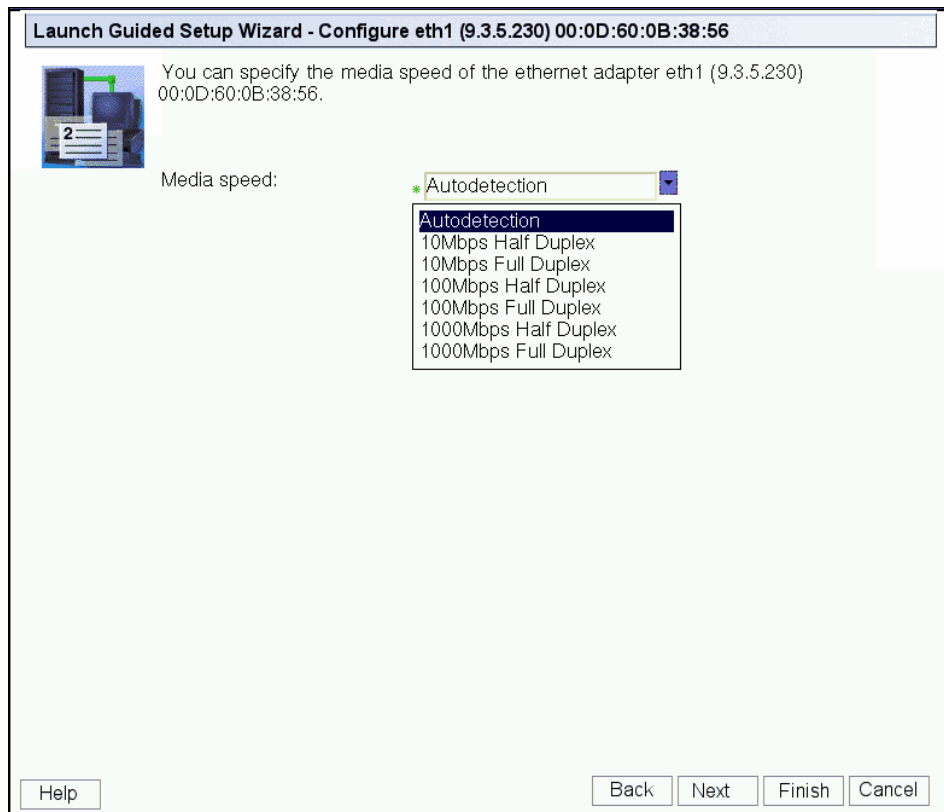

Figure 3-22 Launch Guided Setup Wizard - Configure eth1 Media Speed
15. The Launch Guided Setup Wizard - Configure eth1 Media Speed panel is then displayed (Figure 3-22). As the eth0 configuration before, you can leave the LAN adapter speed at Autodetection for initial setup, or you can set the LAN adapter speed if you know the information.